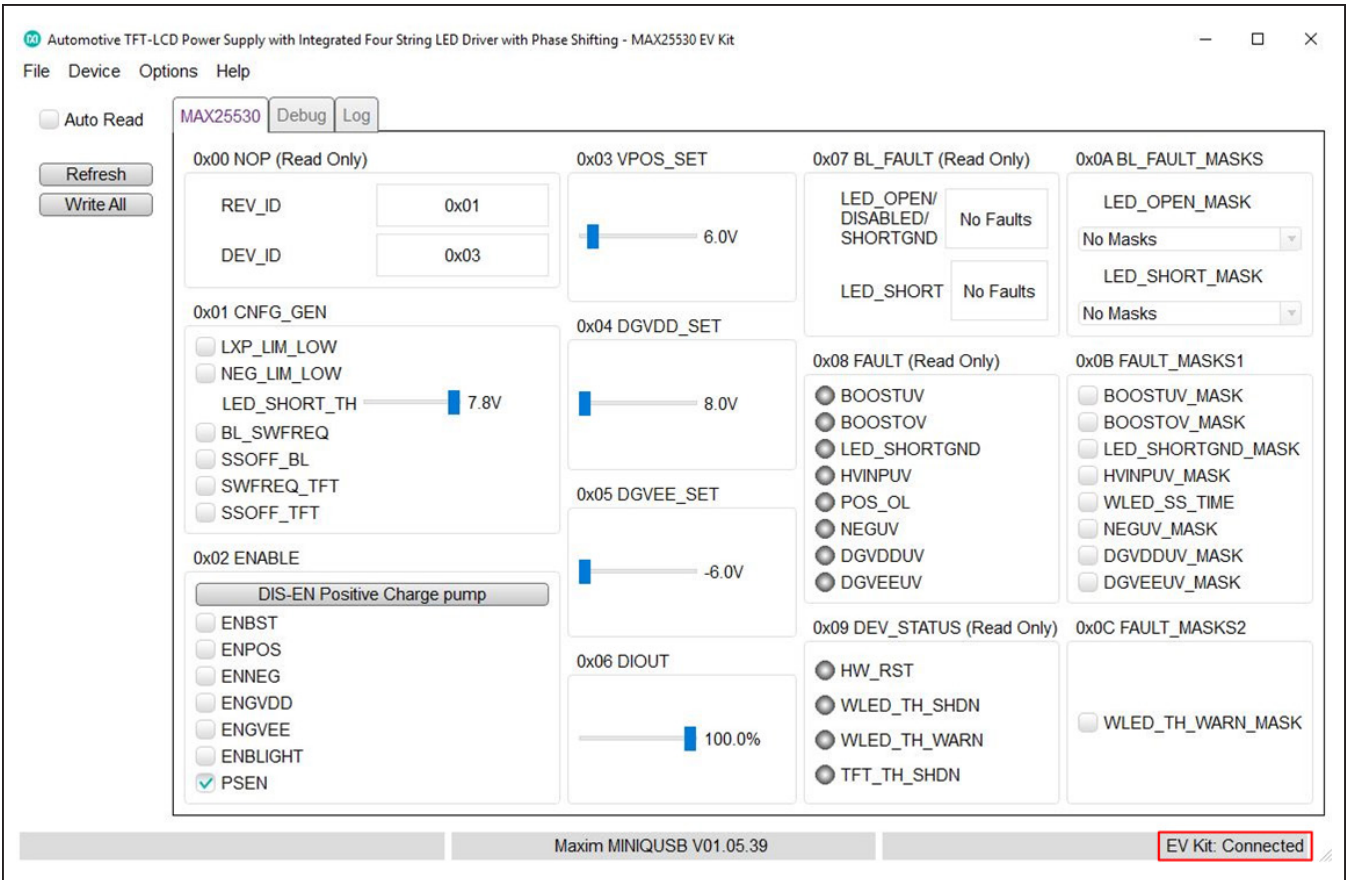

Figure 1. MAX25530 Evaluation Kit Software (GUI)
- 24) Verify that the status bar in the bottom-right corner of the GUI displays **EV Kit: Connected**, as shown in Figure 1.